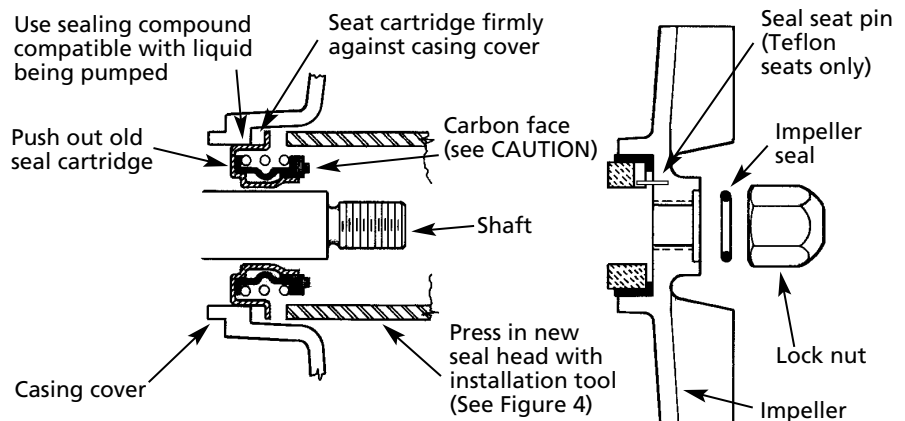
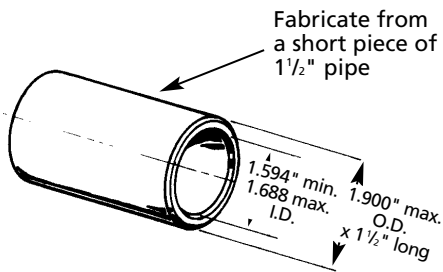

Figure 2 - Mechanical Seal Replacement (Teflon seal shown)
Figure 3 – Seal Installation Tool
Refer to Figures 2, 3 and 4.
- Apply a light coat of sealing compound to new seal head (See Figure 2) and press it into casing cover recess using proper size tube or installation tool (See Figure 3). DO NOT press on carbon face or top